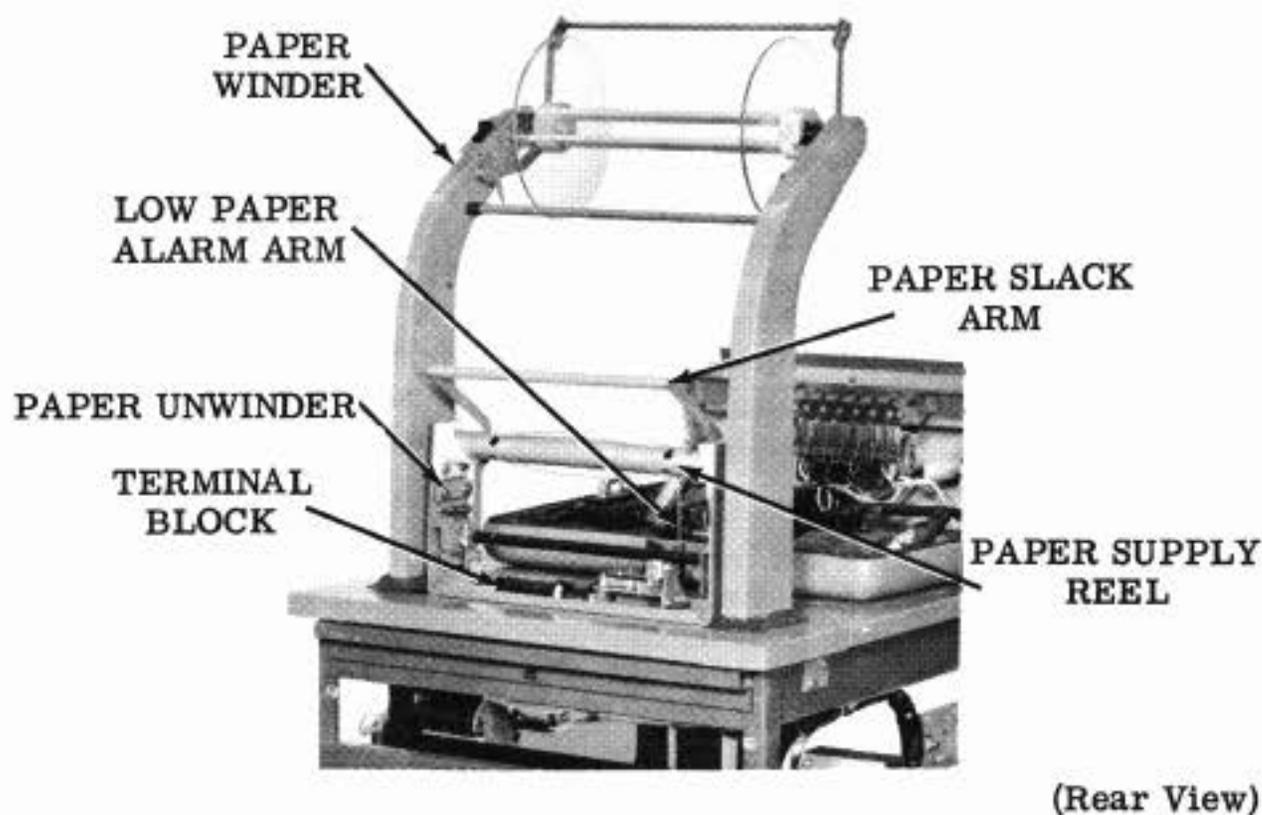

Figure 6 - Top Deck of Printer Showing Paper Unwinder and Paper Winder
2.15 The paper unwinder is mounted at the rear of the sliding panel at the top of the cabinet (Figure 6). It consists of the paper supply reel and slack arm, and the low paper alarm arm and switch.